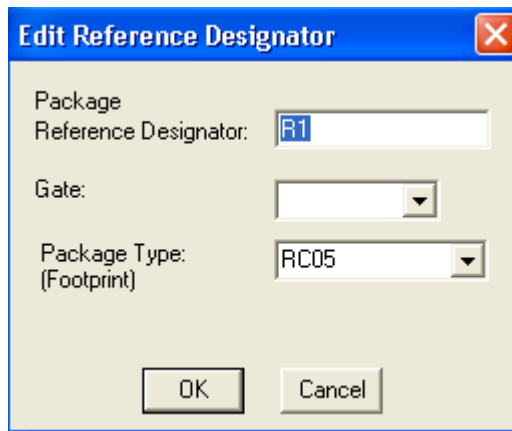

Figure 3
- You probably don't want to keep the names C1, C2 etc., especially if you didn't put the parts in the most logical order. To change the name, double click on the present name (C1, or R1 or whatever your part is), and then a box will pop up (Edit Reference Designator) see Figure 3. In the top window, you can type in the name you want the part to have.